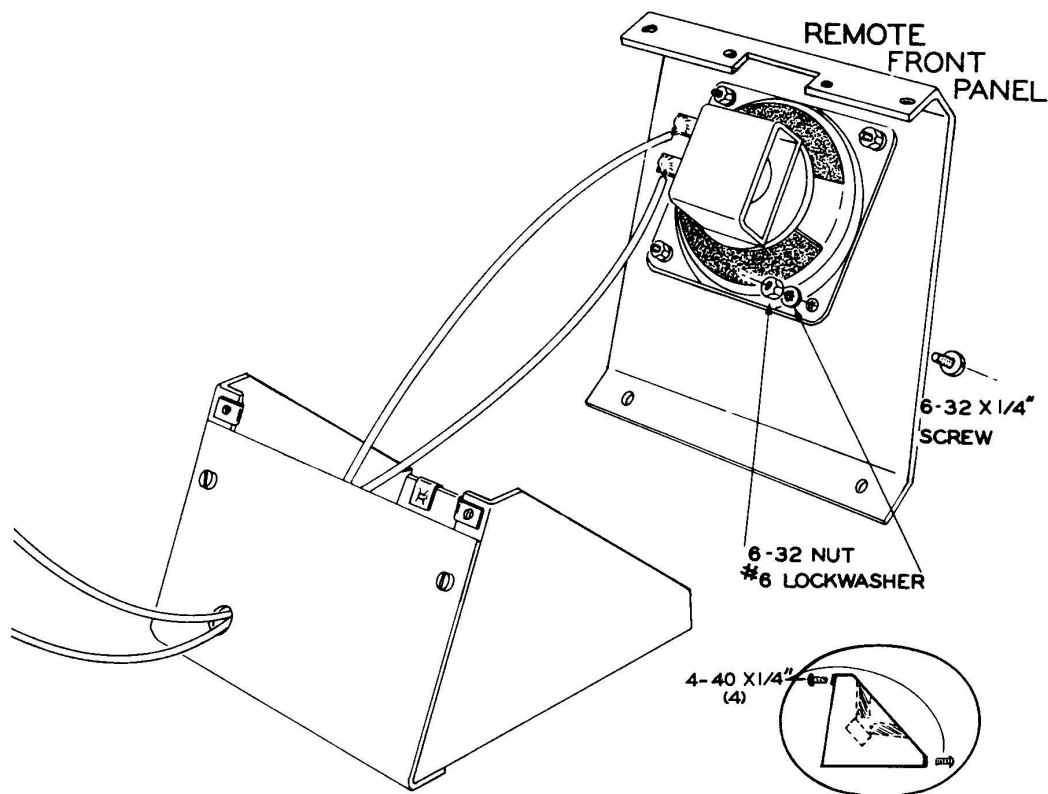

Figure 5R
Refer to Figure 5R for the following steps.
- () Place the front panel over the end panels as shown in the inset of Figure 5R and fasten it in place with a 4-40 screw in each corner.